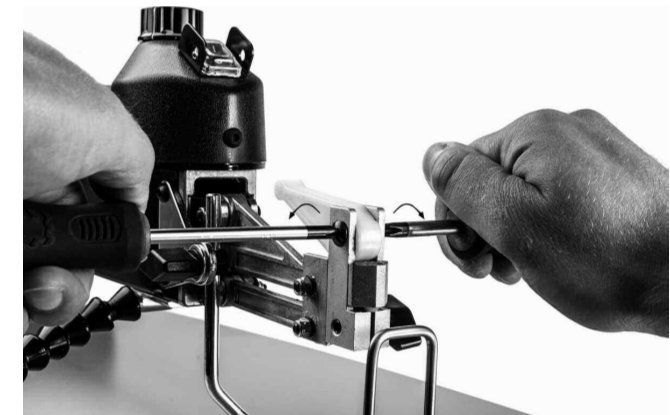

FIGURE 19
- 2) The barrel bolt can be removed by using two Phillips screwdrivers to loosen the binding screw and remove the barrel bolt as shown in Fig.19.